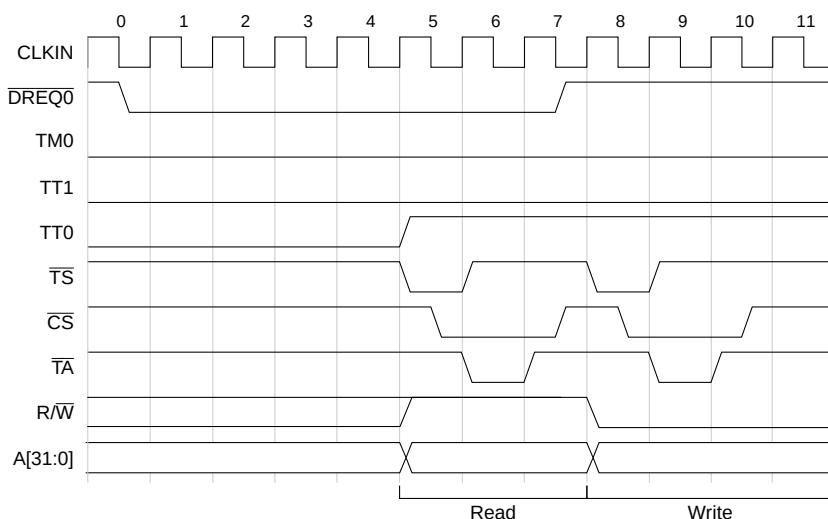

Figure 12-11.  $\overline{\text{DREQ}}$  Timing Constraints, Dual-Address DMA Transfer
Figure 12-11 shows the minimum 4-clock cycle delay from when  $\overline{\text{DREQ}}$  is sampled asserted to when a DMA bus cycle begins. This delay may be longer, depending on DMA priority, bus arbitration, DRAM refresh operations, and other factors.
Although Figure 12-11 does not show TM0 signaling a DMA acknowledgement, this signal can provide an external request acknowledge response, as shown in subsequent diagrams.
- For dual-address transfers,  $\overline{\text{DREQ}}$  must be negated before  $\overline{\text{TS}}$  is asserted for the write portion, as shown in Figure 12-11, clock cycle 7.